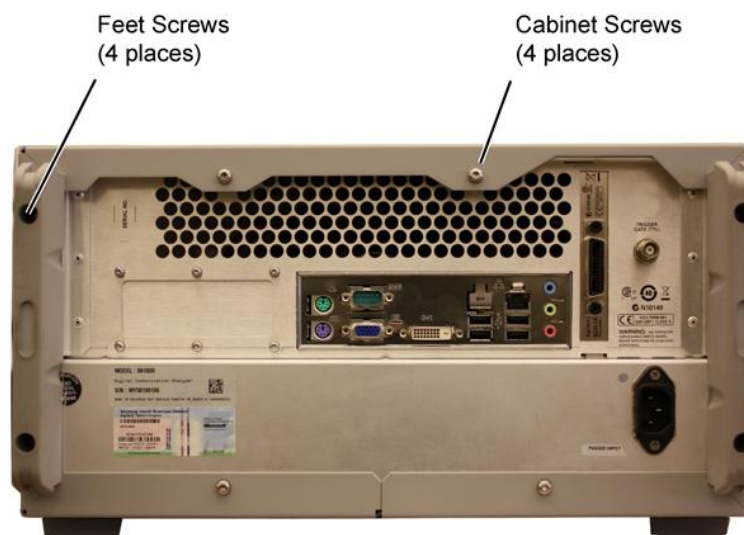

Figure 1. Removing the Rear Cabinet Screws
2. Remove the four cabinet screws and four feet screws, as shown in Figure 1.